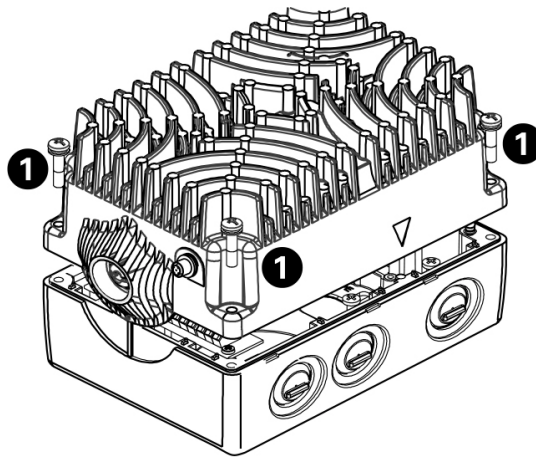

Figure 2-1 Removing Inverter cover
1. If the Inverter has already been fitted unscrew the four crosshead captive screws (1) on the inverter cover (as shown Figure 2-1).